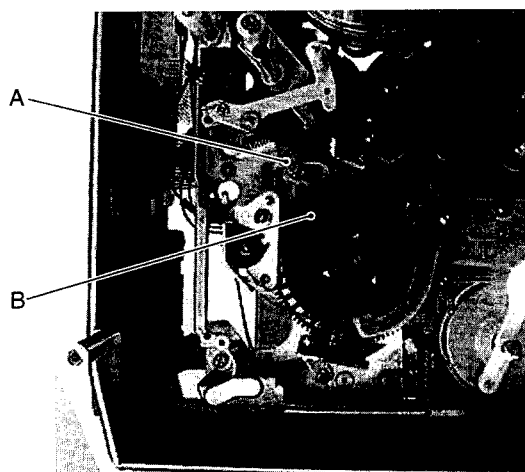
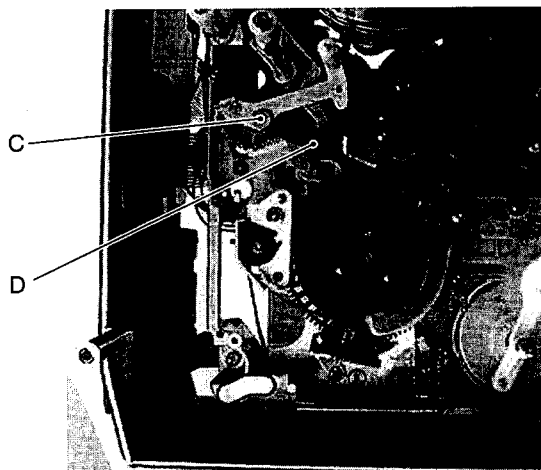

Fig. 2-6-13
Fig. 2-6-14
3. Advance the timing belt B by rotating it in the direction of the arrow (see Fig. 2-6-14) until arm A of the supply pole base assembly moves to a position where the arm is not in the way when the supply reel disk assembly is removed (see Fig. 2-6-13).
4. Remove slit washer C and the screw 1, then remove the supply tension band assembly D (See Fig. 2-6-14).